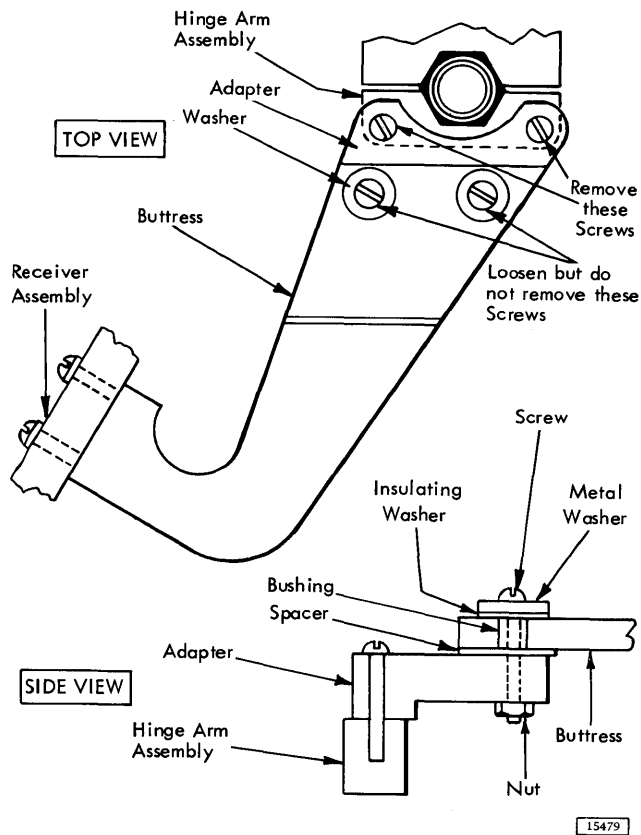

Figure 2-19. Buttress and Adapter Assembly
3. Loosen but do not remove the screws and nuts that secure adapter to buttress (top and bottom buttress) (Figure 2-19).
4. Remove screws that retain adapter on hinge arm (top and bottom hinge arm) assembly (Figure 2-19).
- e. Replace the two screws that retain adapter on hinge arm assembly. Tighten screws and nuts that secure adapter to buttress (top and bottom buttress assemblies) (Figure 2-19).